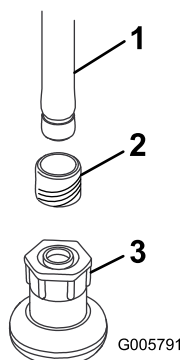

Figure 14
1. Snap a threaded fitting over one end of the rinse tube as shown in Figure 14.
2. Install the rinse nozzle bulb over the threaded side of the rinse tube (Figure 14).